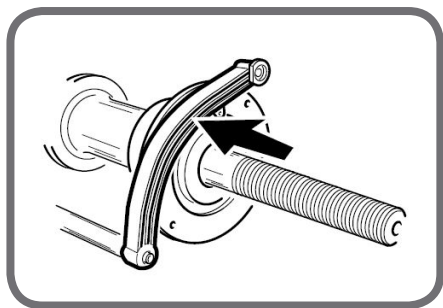

Fig. 9a
- move the lever of the internal sensor so it rests against the swinging unit flange as shown in figure 9a;